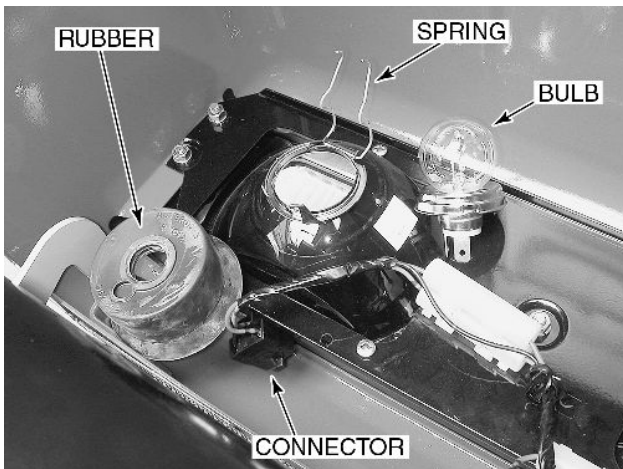

Figure 74 - Headlight Bulb
1. Pull up the connector and rubber from the housing, Figure 74.